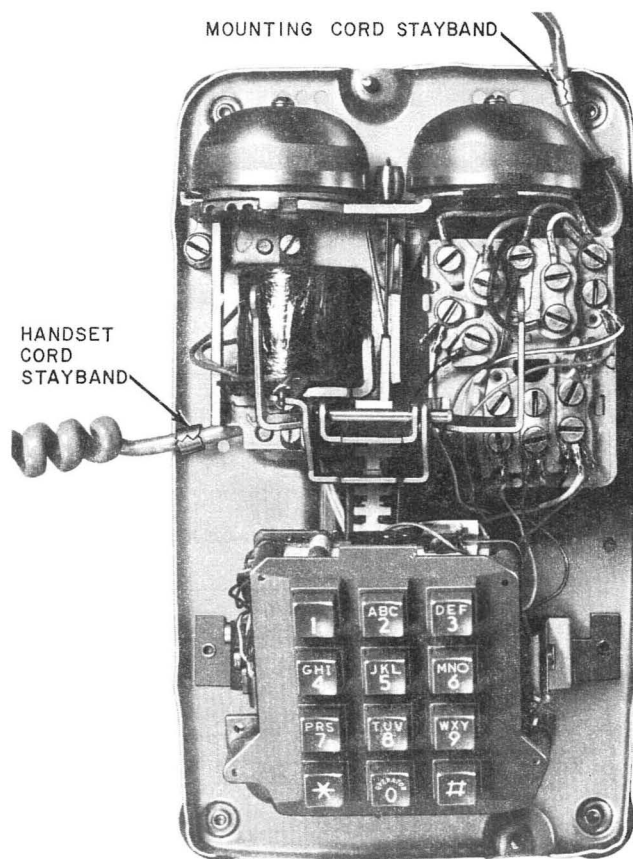

Fig. 8—2500-Type Telephone Set (Interior View)
- (a) Install handset and mounting cords. Current model C4A ringers are equipped with a boss to retain the handset cord. Secure cord staybands to base (Fig. 8). Connect leads per Table C and place end of cord under ringer frame or boss.